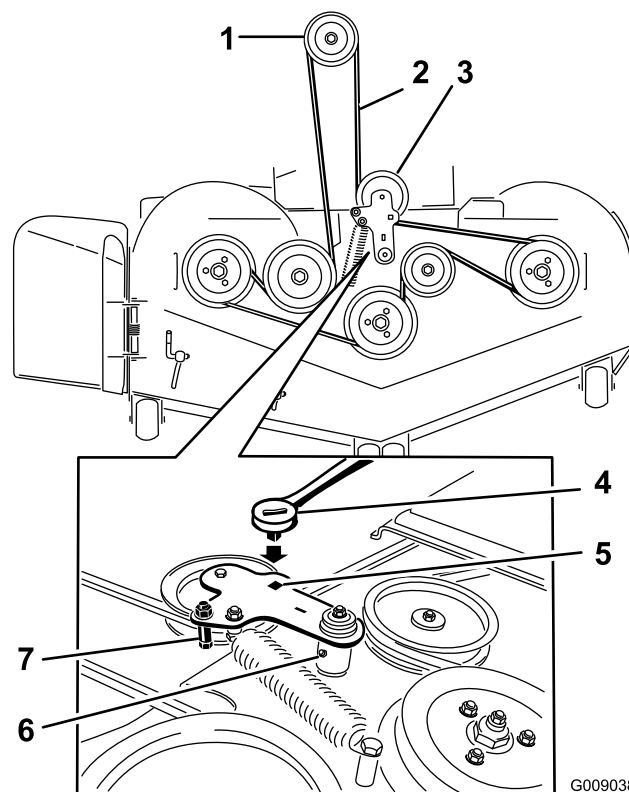

Figure 95
5. Lift up the floor pan and insert a ratchet into the square hole in the deck idler (Figure 95).
6. Rotate the deck idler clockwise and remove the mower belt (Figure 95).